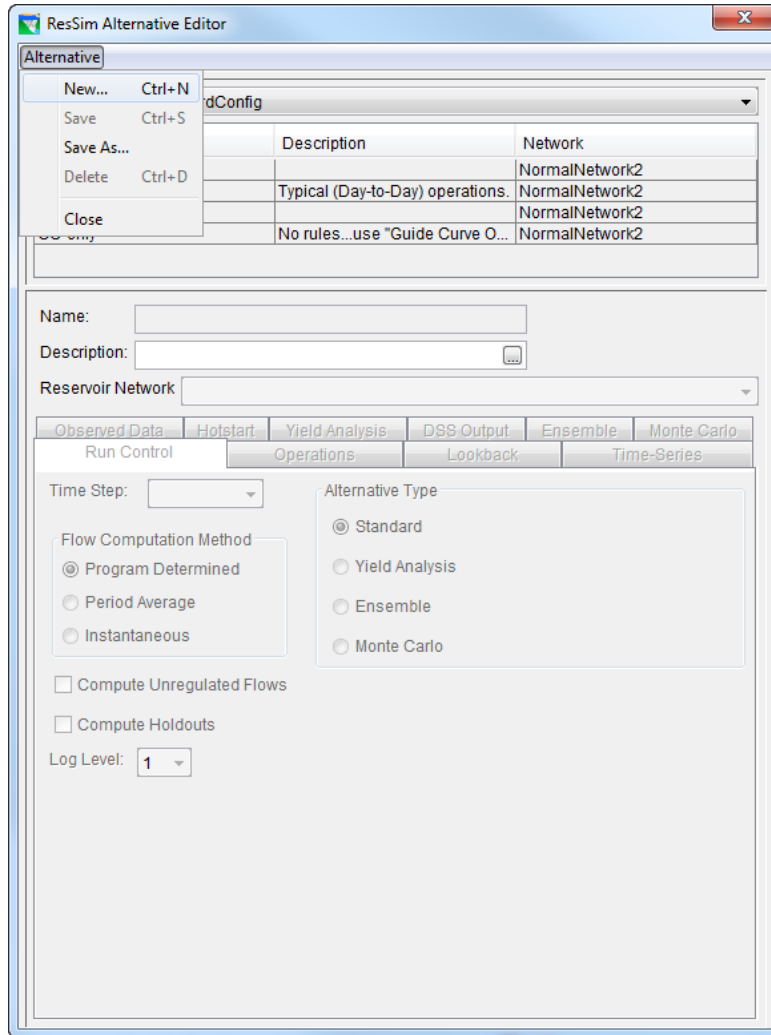

Figure 33: Alternative Editor, Create New Alternative
9. Typically, the Lookback period is used for *warming-up* the state (i.e., setting initial conditions) of the watershed for an alternative. However, instead of using the Lookback period and associated data for determining the system state, you can save (and subsequently use) the data from one simulation to another simulation by using the *optional* Hotstart options (Figure 33). Use the Hotstart as a way of assigning a previously simulated watershed state to another simulation. In order to use the Hotstart option, the user must first run a simulation that saves system state data to “Hotstart” files [Section 13.10].